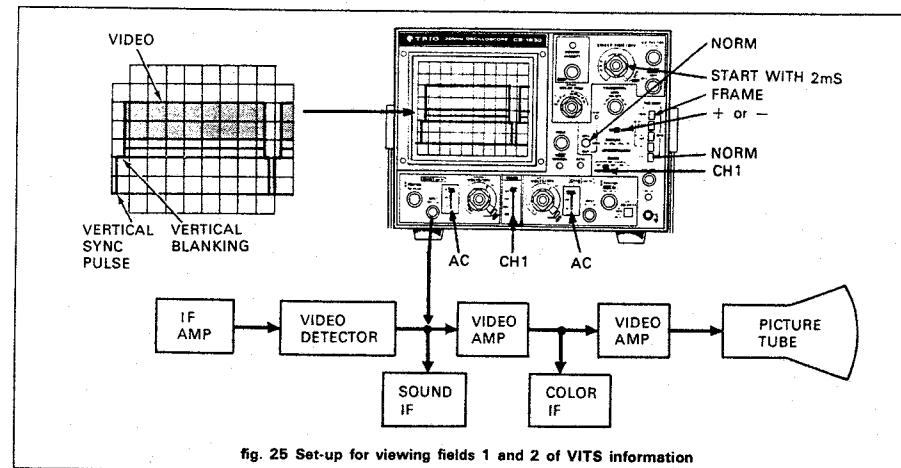

fig. 25 Set-up for viewing fields 1 and 2 of VITS information
With dual-trace operation, the signal information on each blanking pulse can be viewed separately without overlapping. Fig. 25 indicates the oscilloscope control setting for viewing the alternate VITS.
With dual-trace oscilloscope operation, the signal information on each vertical blanking interval can be viewed separately without trace overlapping, although the information alternates with each field. Fig. 25 indicates the oscilloscope control setting for viewing the alternate vertical blanking intervals.
2. The control settings of Fig. 25 are these required to obtain a 2-field vertical display on CH1.